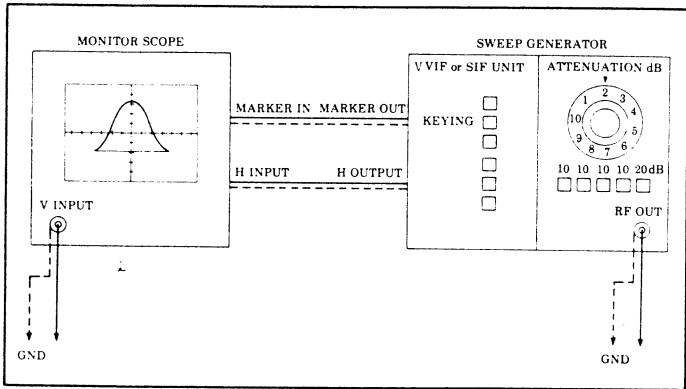

Fig. 18 Connection of Measuring Equipment
1. Set the BAND SW of the Unit to the VHF high position (VH) and turn the tuning volume so that the voltage at BT terminal of the tuner becomes 15 V.
2. Connect the VIF Sweep to TP703 and connect the Monitor Scope to TP707 as shown in Fig. 18.
1. Set the BAND SW to the VHF high position (VH) and turn the tuning volume so that the voltage at BT terminal of the tuner becomes 15 ± 0.5V.
2. Connect the VIF Sweep to Test Point of the Tuner and connect the Monitor Scope to TP707 as shown in Fig. 18.